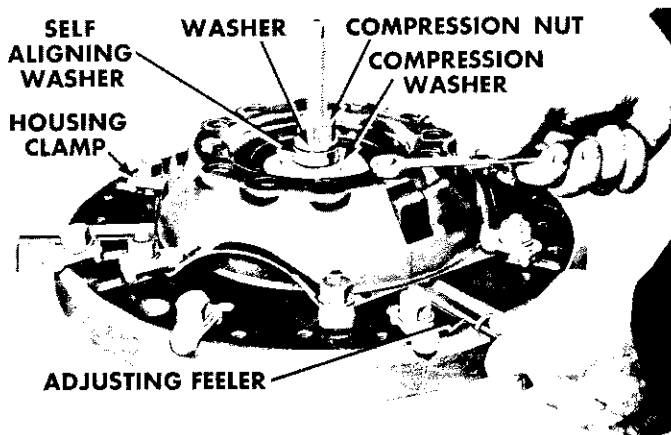

Fig. 6—Adjusting Clutch Release Levers
(11) Apply fixture clamps at each cover retainer bolt hole to hold the assembly to the fixture.
(12) Turn the eye bolt nuts down the eye bolts, flush with ends of the bolts. This is a temporary position.
(13) Remove the compression nut, washer and spider and push each lever down several times to be sure that the levers are seated properly.
(14) To adjust the release levers, install tool spacer C-585-19 on the fixture center screw, then lever compression plate C-585-36, flat side down. Install the thrust washer and compression nut and tighten the nut (Fig. 6).
(15) Adjust the eye bolt nuts until the feeler blades have the same drag or feel while being pushed in or pulled out.
(16) After all levers are adjusted, recheck the drag of the feeler blades before staking the eye bolt and nuts.
(17) Remove the clutch from the fixture.